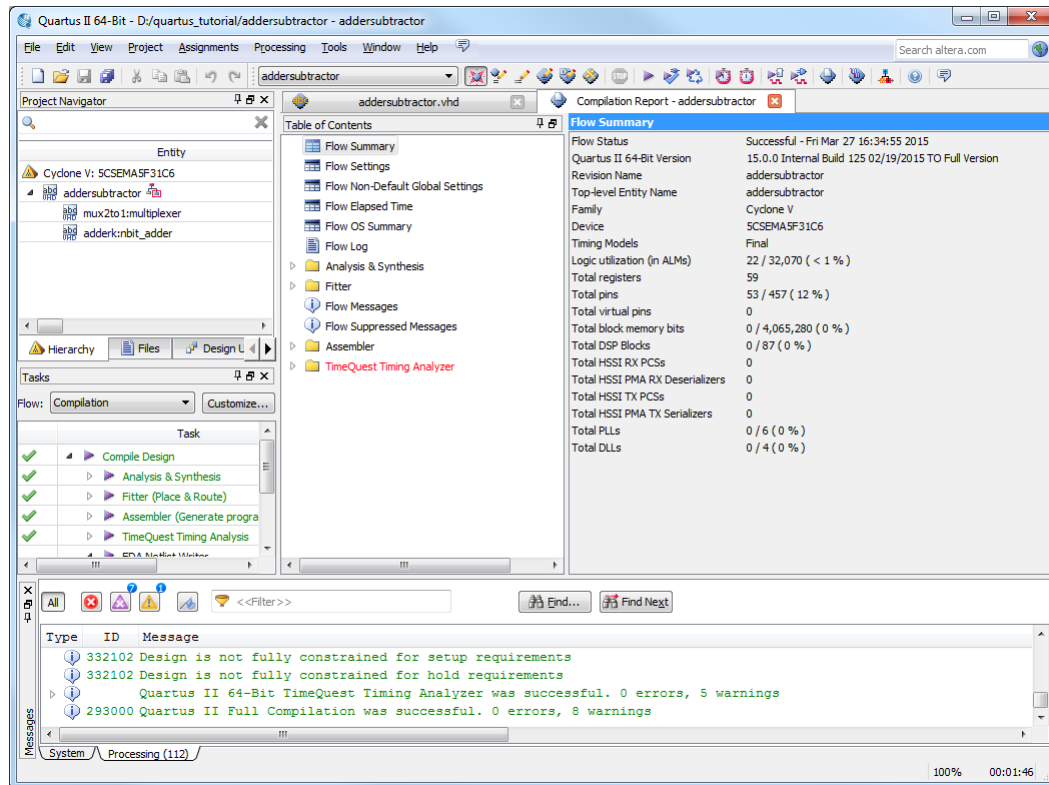

Figure 32: The main Quartus® II display.
The Quartus® II display contains several utility windows which can be positioned in various places on the screen, changed in size, or closed. In Figure 20, which is reproduced in Figure 32, there are five windows.
1. To see the usefulness of this window, open the previously compiled project *quartus_tutorial\addersubtractor.qpf* to get a window similar to Figure 32.